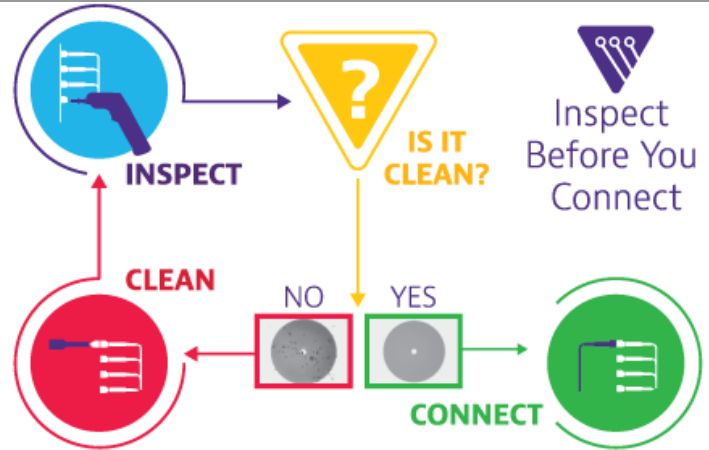

Figure 8: Inspect Before You Connect
- Follow the **Inspect Before You Connect** process depicted in *Figure 8* to the right.